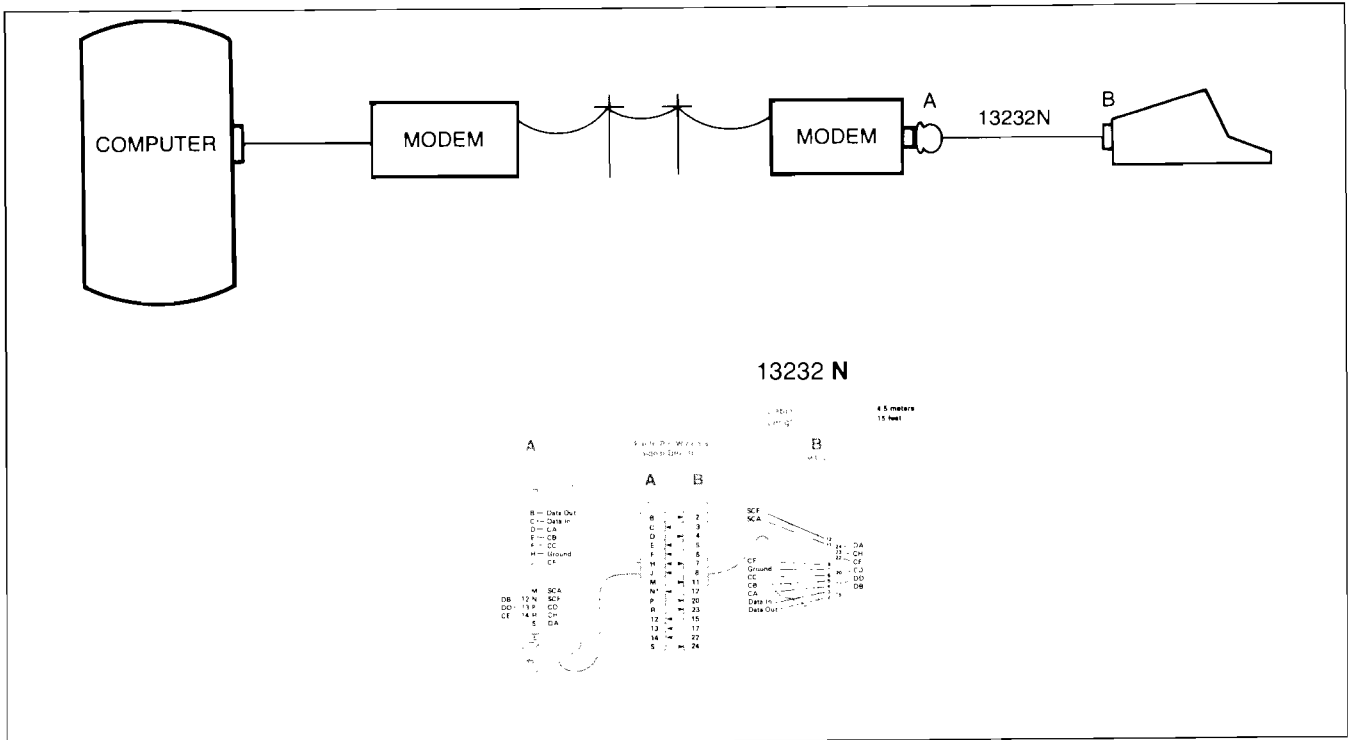

Figure 1-22. Point-to-Point Data Communications through a Modem
To connect the terminal to a computer through a modem, refer to figure 1-22 and perform the following:
3. Connect cable HP 13232N (U.S.) or HP 13232M (Europe) from the Extended Asynchronous Communications Interface PCA (part no. 02640)60143) to the modem. Connect an appropriate RS-232-C cable from the modem to your computer. Refer to figure 1-22 for the cabling information and to table 1-3 for information on fabricating your own cable.